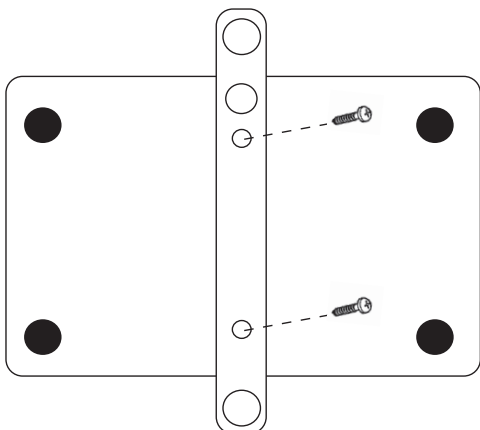

Figure 6.
**Step 1.** Insert the two M3 x 4 machine screws through the wall bracket and into the rear of the transmitter module, as shown in Figure 6.